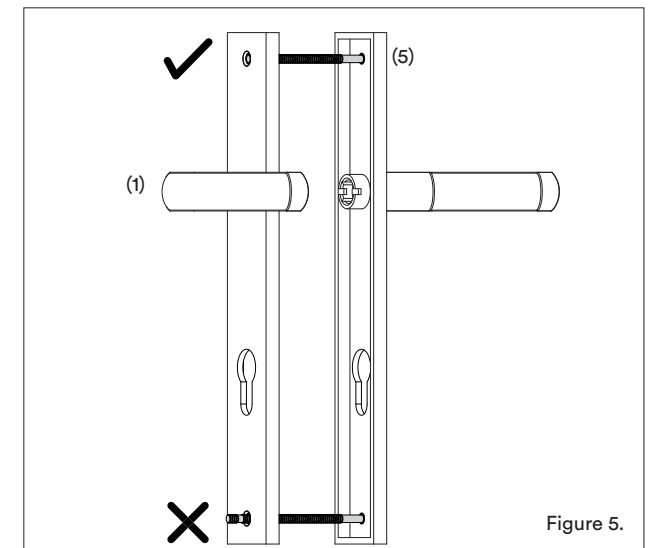

Figure 5.
- 4.2. Ensure to cut so that the screw does not protrude from the opposite plate once installed. (Figure 5)